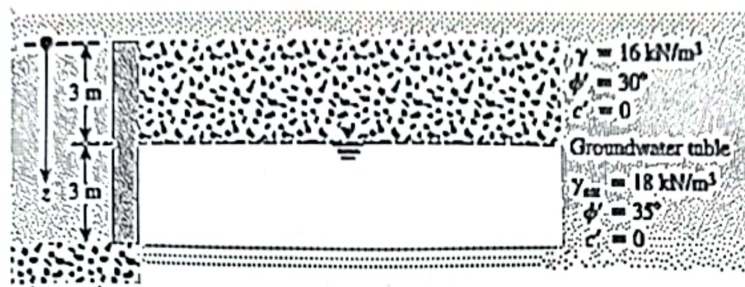

Fig. 2
4. a) Explain (any two) with necessary illustrations - (10) 2
- b) For the retaining wall shown in Fig. 2, determine the force per unit length of the wall for Rankine's active state. Also find the location of the resultant. (20) 2